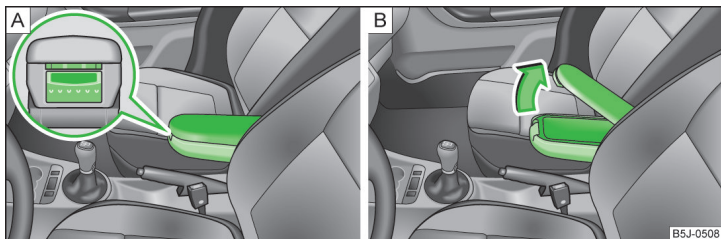

Fig. 88 Armrest: Storage compartment/open storage compartment
- Press the lower button on the end of the armrest » Fig. 88 - **A**.
- Press the upper button and open the cover of the stowage compartment upwards » Fig. 88 - **B**.